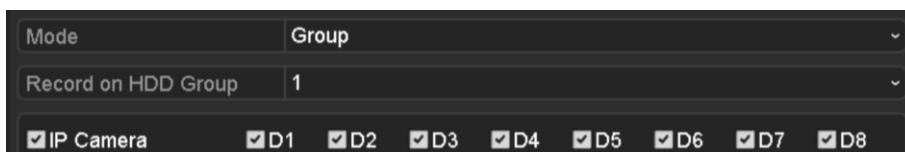

Figure 13-11 Storage Mode Interface
Step 2 Set the **Mode** to Group, as shown in Figure 13-11.